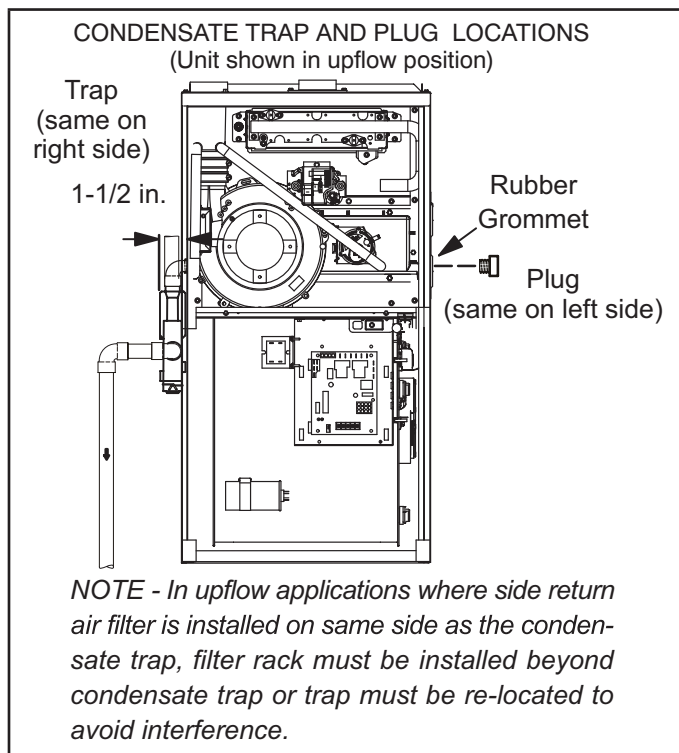
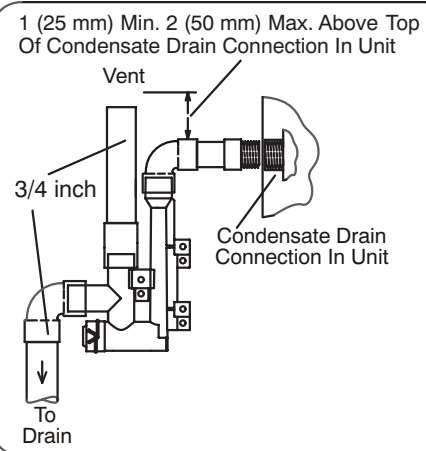

FIGURE 41
FIGURE 49
This unit is designed for either right- or left-side exit of condensate piping in upflow applications. In horizontal applications, the condensate trap must extend below the unit. An 8" service clearance is required for the condensate trap. Refer to FIGURE 41 for condensate trap locations. FIGURE 49 shows trap assembly using 1/2" PVC or 3/4" PVC.
- 3 - Install the cap over the clean out opening at the base of the trap. Secure with clamp. See FIGURE 49.
- 4 - Install drain trap using appropriate PVC fittings, glue all joints. Glue the provided drain trap as shown in FIGURE 49. Route the condensate line to an open drain. Condensate line must maintain a 1/4" downward slope from the furnace to the drain.